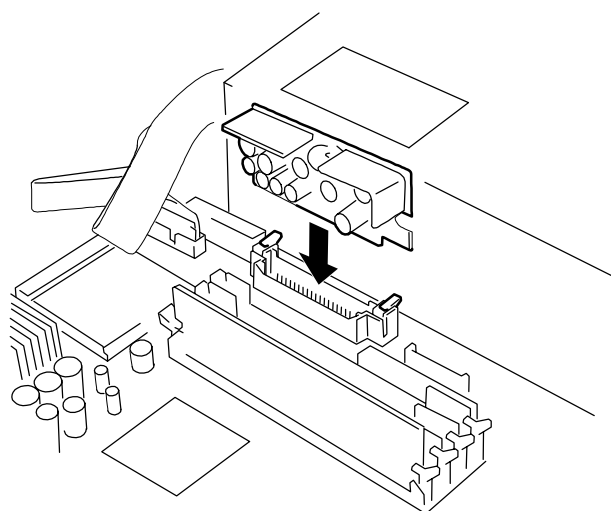

Figure 11. Installing the VRM Board
- 12.** Install a VRM module into the system board. See Figure 11. Position the module over the socket on the board and press down evenly on the board until it seats correctly.